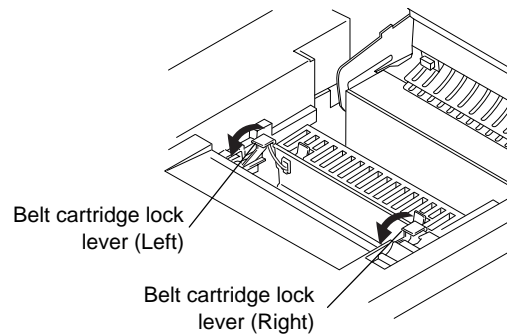

Fig.6-11
- 3) Release the belt cartridge lock levers at both sides (left & right). (Fig.6-11)